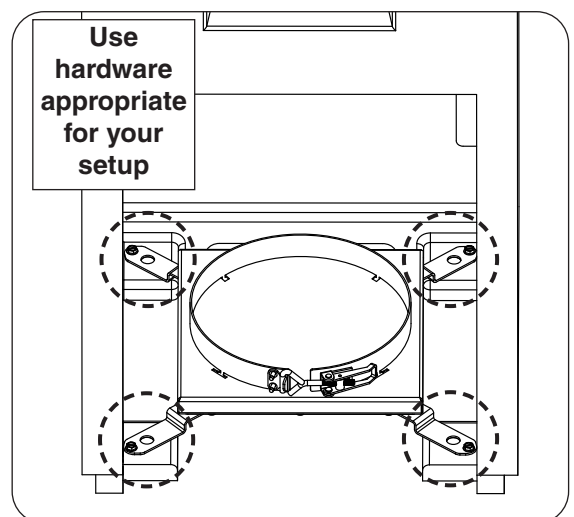

Fig. 17-3 Mount base to floor
2. Using appropriate mounting hardware for the floor material/construction, secure the lantern base into the floor. The interior of the base has four $\frac{1}{2}$ " holes that will allow for the base to be fastened to the floor. See Fig. 17-3.